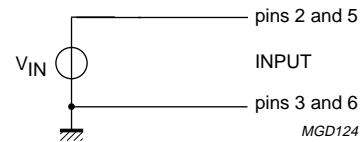
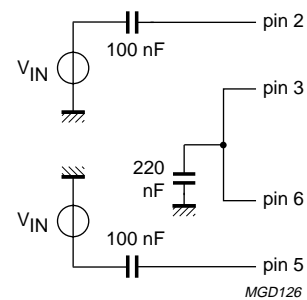
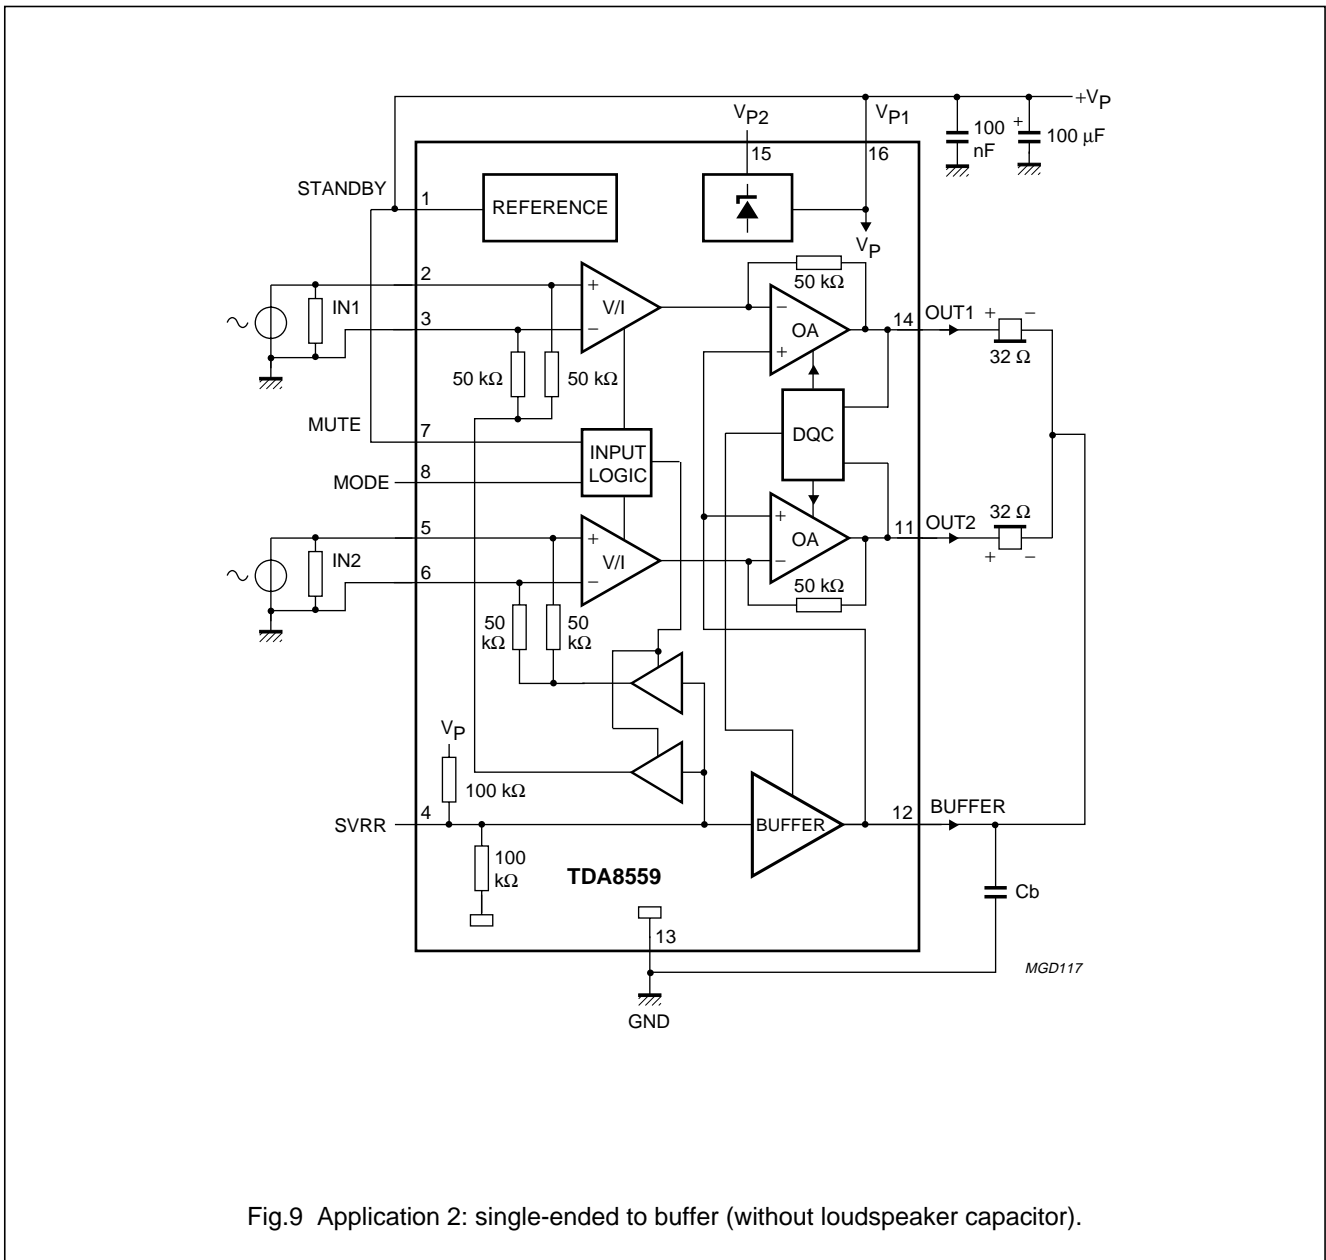
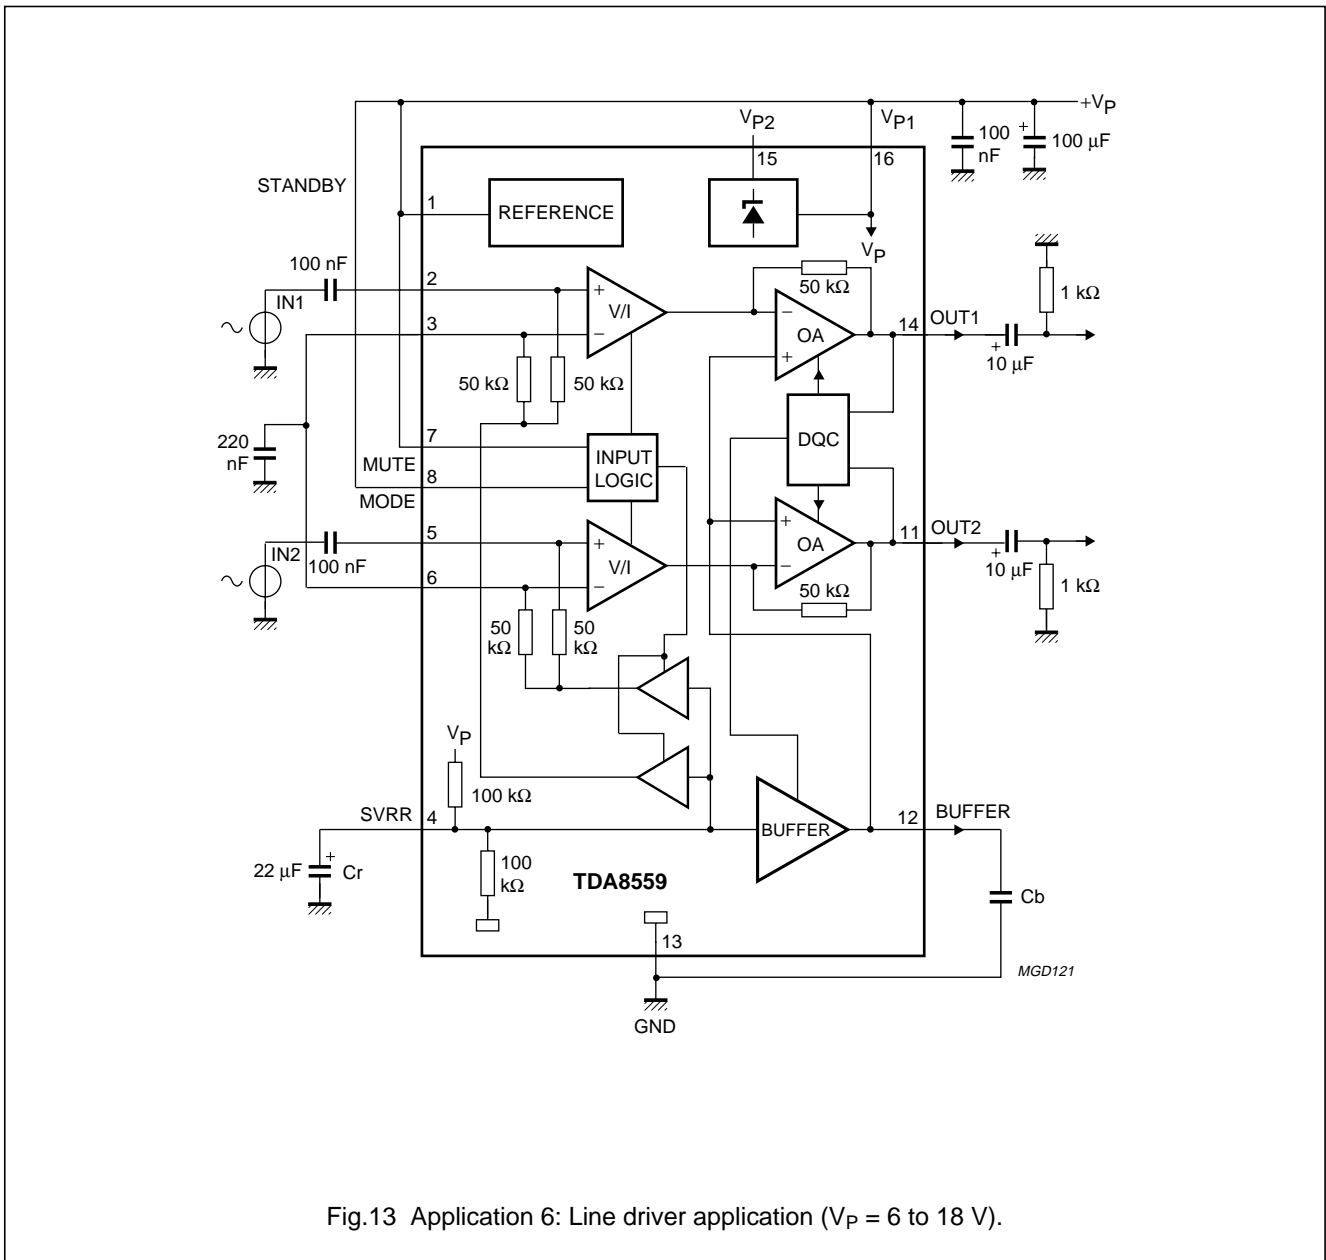

Fig. 4 Input configuration; without input capacitor ($V_P < 6\text{ V}$).
Fig. 6 Input configuration (at $V_P > 6\text{ V}$, combined negative inputs).
Fig.9 Application 2: single-ended to buffer (without loudspeaker capacitor).
Fig.13 Application 6: Line driver application ($V_P = 6$ to 18 V).
The standard application is stereo headphone single-ended with a 32Ω load impedance to buffer (see Fig.9). The headphone amplifier can deliver a peak output current of 150 mA into the load.
- The graphs for the single-ended application have been measured with the application illustrated in Fig.9; input configuration for input mode low (Fig.4) and input configuration for input mode high (Fig.6).
- The graphs for the BTL application 'input mode low' have been measured with the application circuit illustrated in Fig.11 and the input configuration illustrated in Fig.4.
- The graphs for the line-driver application have been measured with the application circuit illustrated in Fig.13 and the input configuration illustrated in Fig.6; input mode high.
Application 2: SE to buffer (without loudspeaker capacitor) (see Fig.9)
Application 6: Line driver application $6\text{ V} < V_P < 18\text{ V}$ (see Fig.13)